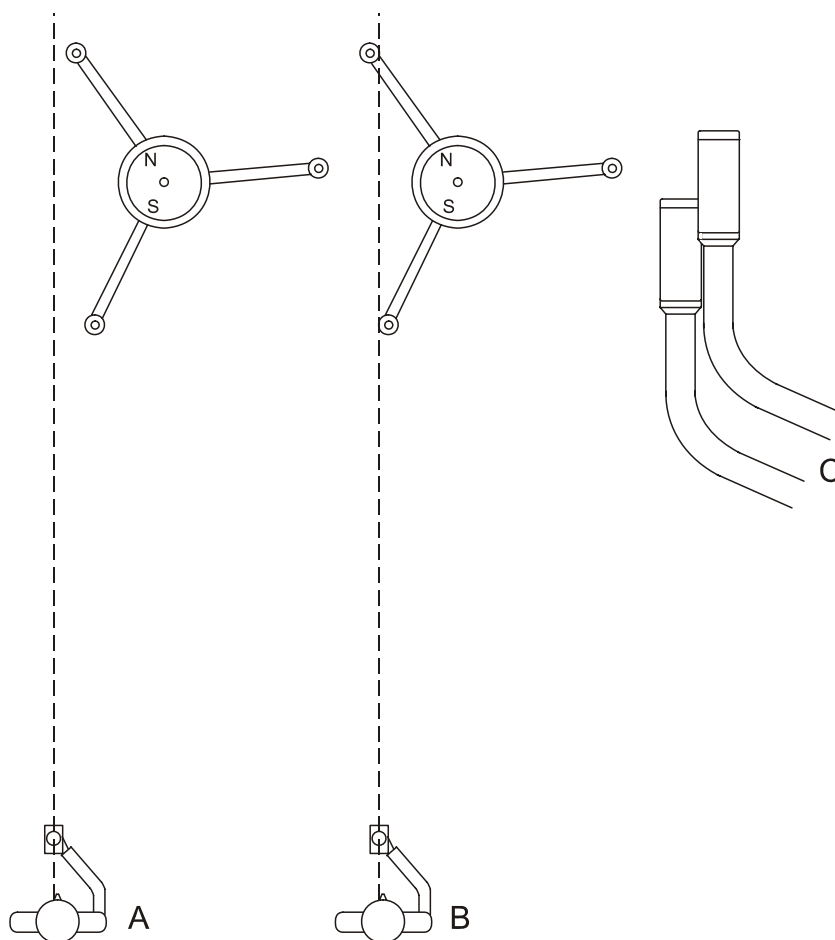

Figure 14 Adjusting the N-S Heads
1. Use a compass to determine that the N-S transducer heads of the ultrasonic wind sensor are exactly in line with the compass. Adjust the heads by moving them to the left or right. For the correct ground position of the installer, see Figure 14 on page 35.
The following letters refer to Figure 14 on page 35: